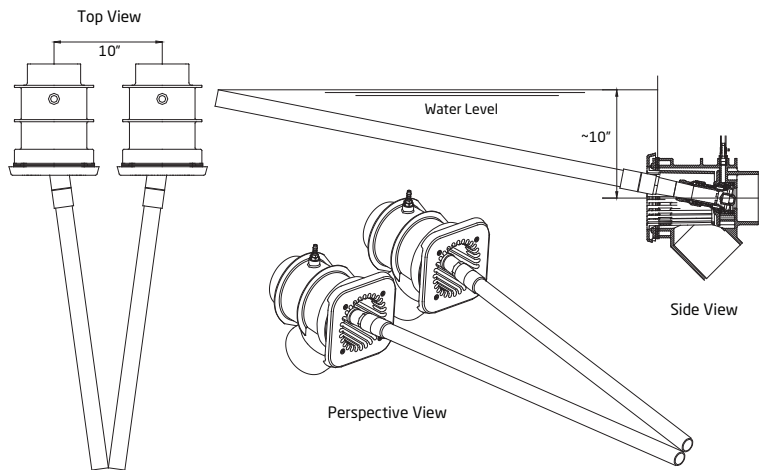

Figure 16
3. Once that is complete, bring the blue nozzle tool up to where the end of the nozzle tool breaks the surface of the water. Then bring the two nozzles tools together to meet. (See Figure 16)